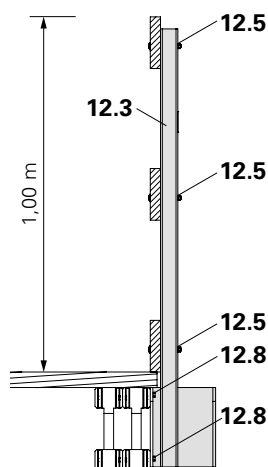

Fig. A1.34a
2. Using wood screws (6x) 6 x 80 DIN 571 (12.8), fix to pre-drilled outer girder. (Fig. A1.34a)